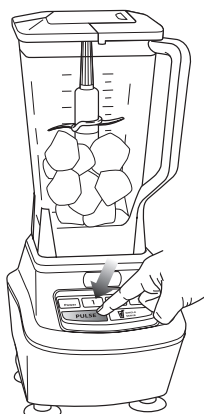

Fig. 6
- 8 Select the speed that best suits your needs. (Fig. 6)